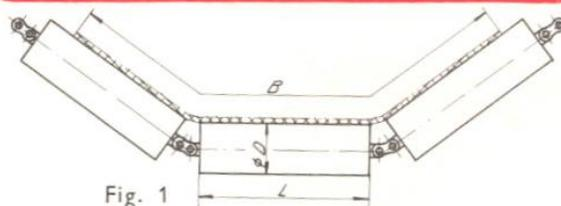
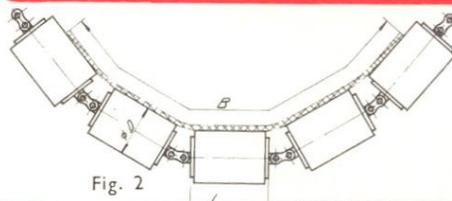

Fig. 1
Fig. 2
- **C3g** according to fig.1 and fig.2 are used to sustain and align the carried side of belt.
- **D5g** according to fig.2 – besides the belt propping and aligning, they are used as shock absorbers in the loading areas of carrier side